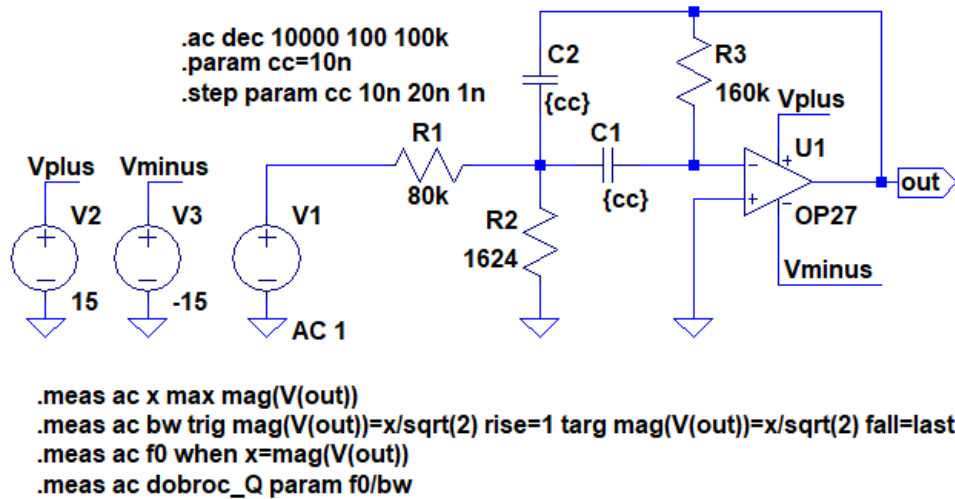

Fig. 9. Using the *.meas* command with changing the parameter value.
11. For the AC analysis, add the change in capacitance in the range from 10nF to 20nF every 1nF (Fig. 9).